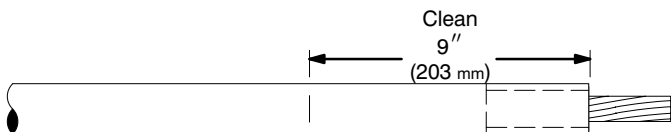

FIGURE 2
3. Clean cable using standard practice (*FIGURE 2*):